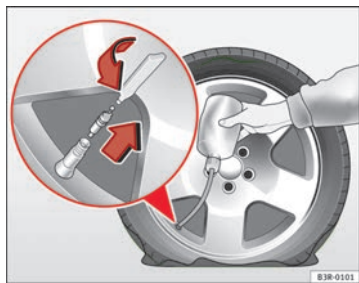

Fig. 118 Tyre: top up
- Take the valve cap off the tyre valve and use a screwdriver ⇒ Fig. 118 to unscrew the valve insert.